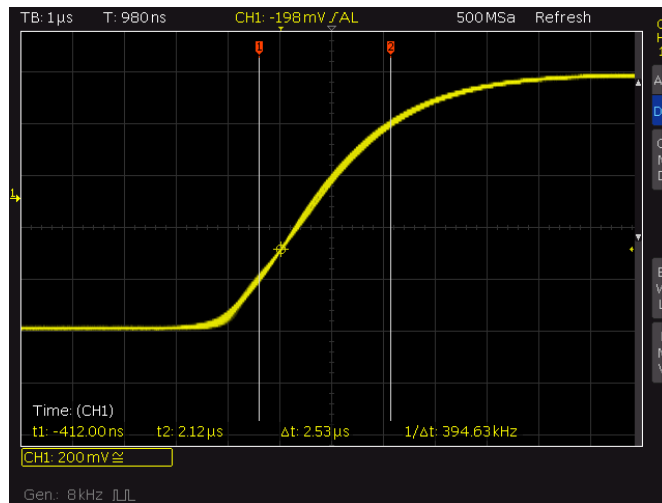

Fig.3-4: Measuring the rise time of a pulse.
Fig.3-4 provides an example of a correct RTC1000 display configuration for measuring the rise time  $t_A$ . The important thing to note is that the steady state is assumed for 0 % and 100 %.
? What is the minimum bandwidth an oscilloscope must have in order to measure the signal from Fig.3-4 with 10 % accuracy? Use formula (1) to calculate.